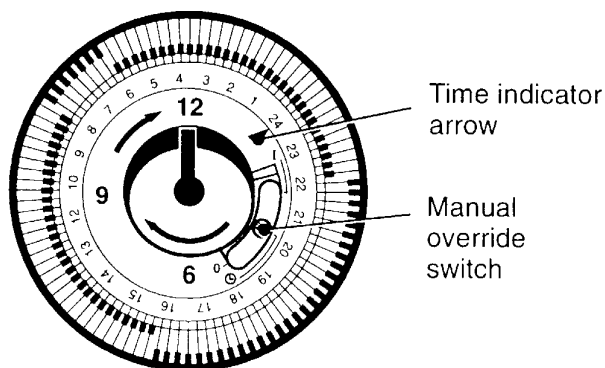

Fig. 2
### **MECHANICAL TIMER - Description and setting (see Fig. 2)**
The groups of tappets between 6.00 and 8.00, and 16.00 and 22.00 set outwards as shown in Fig. 2. This would provide two 'on' periods for central heating from 6 am to 8 am, then again from 4 pm to 10 pm.
To set the timer to the correct time of day, turn the dial (outer tappet ring) clockwise until the time of day is against the time indicator arrow head. Fig. 2 shows the timer at midnight (24.00). The timer also has a conventional 12 hr clock hands display in the centre (do not move the pointer, as it will damage the clock).
- The manual override switch, shown in Fig. 2, is in the  $\ominus$  position.